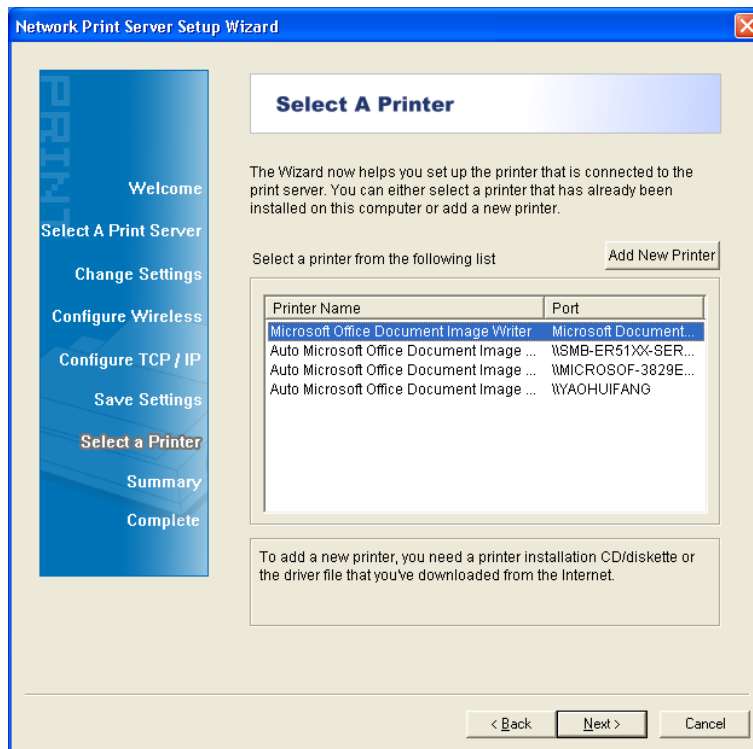

Figure 3-9
- Select “**No**” if you don’t need to change any settings. Click **Next** and then appears Figure 3-9. Skip to Step 23.
8. After that the **“Select a Printer”** page will appear, as shown in Figure 3-9.
- If you never use a printer on your computer before but also want to share printing, click **Add New Printer** button in Figure 3-9 and then Figure 3-11 appears. Follow the steps below to install the printer driver.